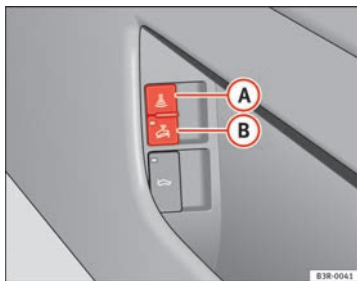

Fig. 80 Interior monitoring switch
- Open the door and pull out the switch  (with the symbol ) to one side of the storage compartment, in the driver door ⇒ Fig. 80.
- Open the door and pull out switch  (with the symbol ) to one side of the storage compartment, in the driver door ⇒ Fig. 80.